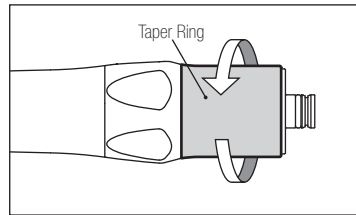

Fig. 9
- 1) Loosen and remove the Taper Ring at the rear of the handpiece. (Fig. 9)